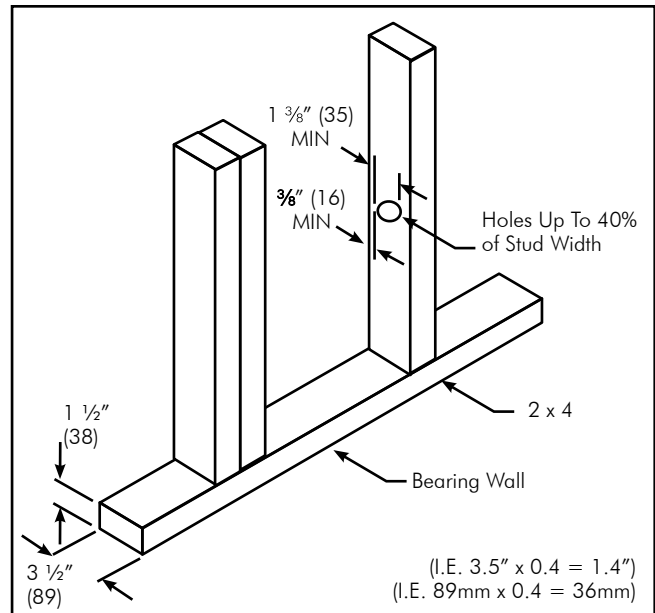

FIG. 4-9 Holes In Load Bearing Walls
- Where holes are to be bored in load bearing vertical member of the wall framing, the size of such holes shall not be larger than 40 percent if the members are doubled. **No more than two successive double bored members are permitted** (See **FIG. 4-9 Page 27**).